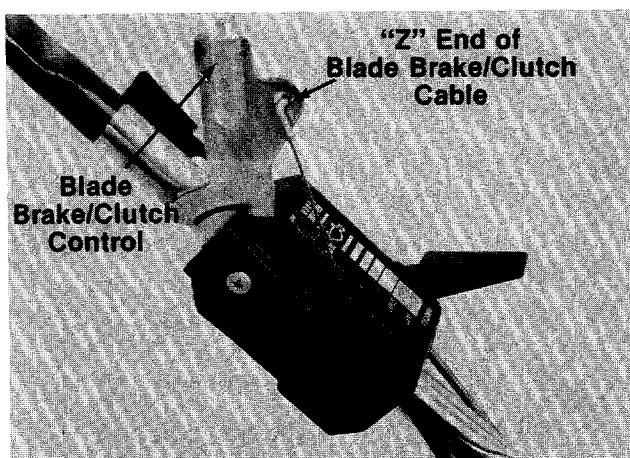

FIGURE 5.
7. Hook the "Z" end of the blade brake/clutch cable into blade brake/clutch control handle. See figure 5.